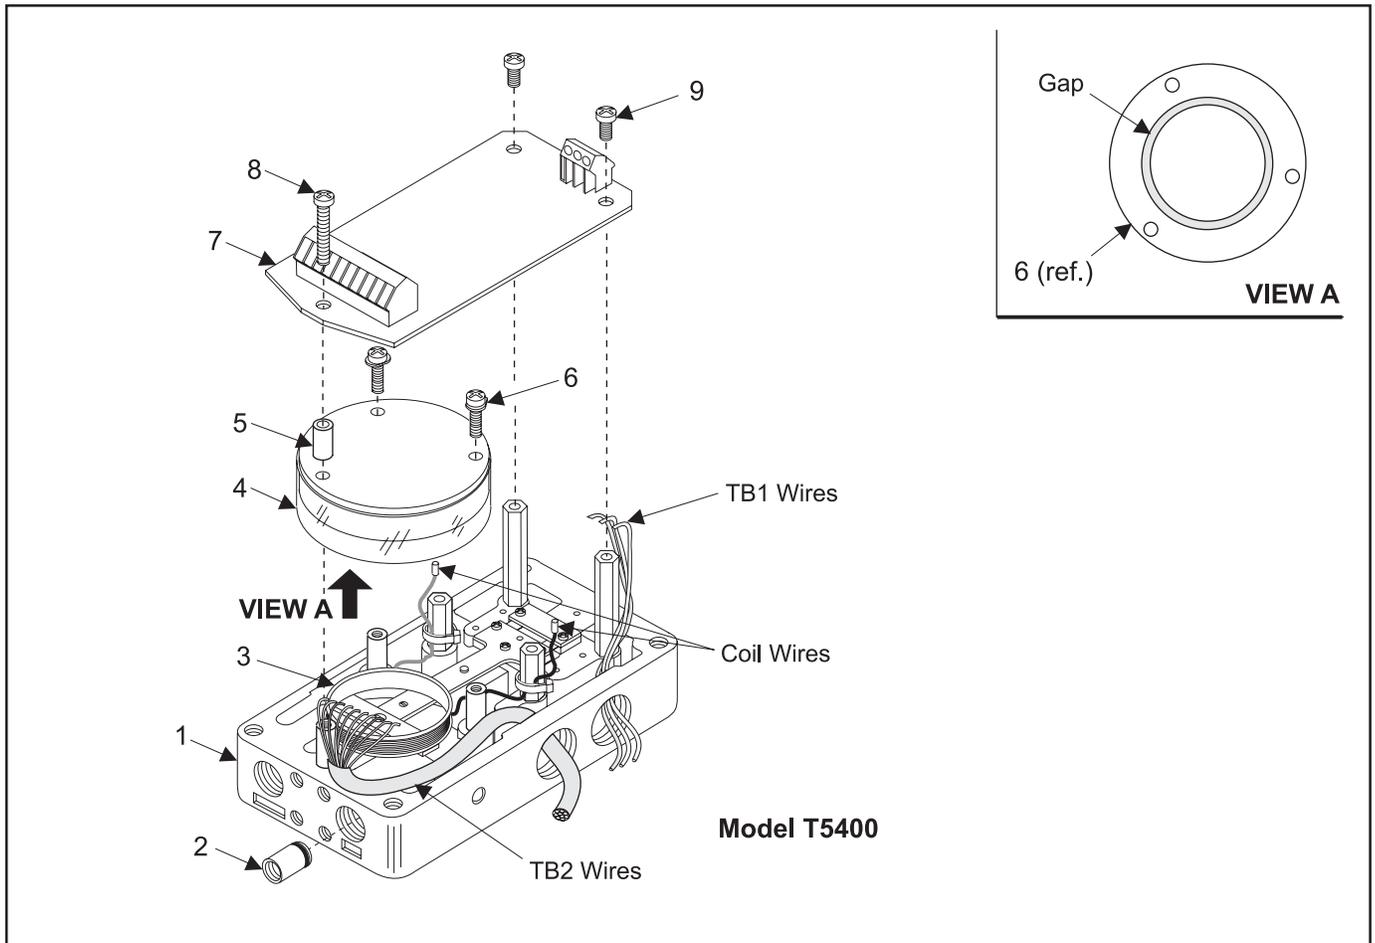

Figure 7. Exploded Drawing.
2. Remove the Orifice Assembly (2) from the unit by threading a 1/4-20" Screw into the orifice housing and pulling it out through the inlet port. For more information, see Figure 7. "Exploded Drawing" below.
1. Disconnect wires from TB1 and TB2 on PC Board (7).
2. Remove Coil Wires from underside of PC Board (7).
3. Remove Screws (8) and (9) and Standoff (5) holding PC Board (7) to Transducer (1). For more information, see Figure 7. "Exploded Drawing" below.
4. Replace PC Board (7) with the appropriate PC Board from Table 3. on page 7.
2. Remove Screws (8) and (9) holding Standoff (5) and PC Board (7) to Transducer (1).
3. Remove two Screws (6) holding Magnet (4) to Transducer (1).
4. Remove Magnet (6) and clean gap of any foreign material with masking tape. For more information, see Figure 7. "Exploded Drawing" below.
5. Place Magnet (4) over Coil (3) and tighten with two Screws (6).
6. Using a non-metallic rod, raise up on the arm to make sure Coil (3) is free to move in Magnet (4).